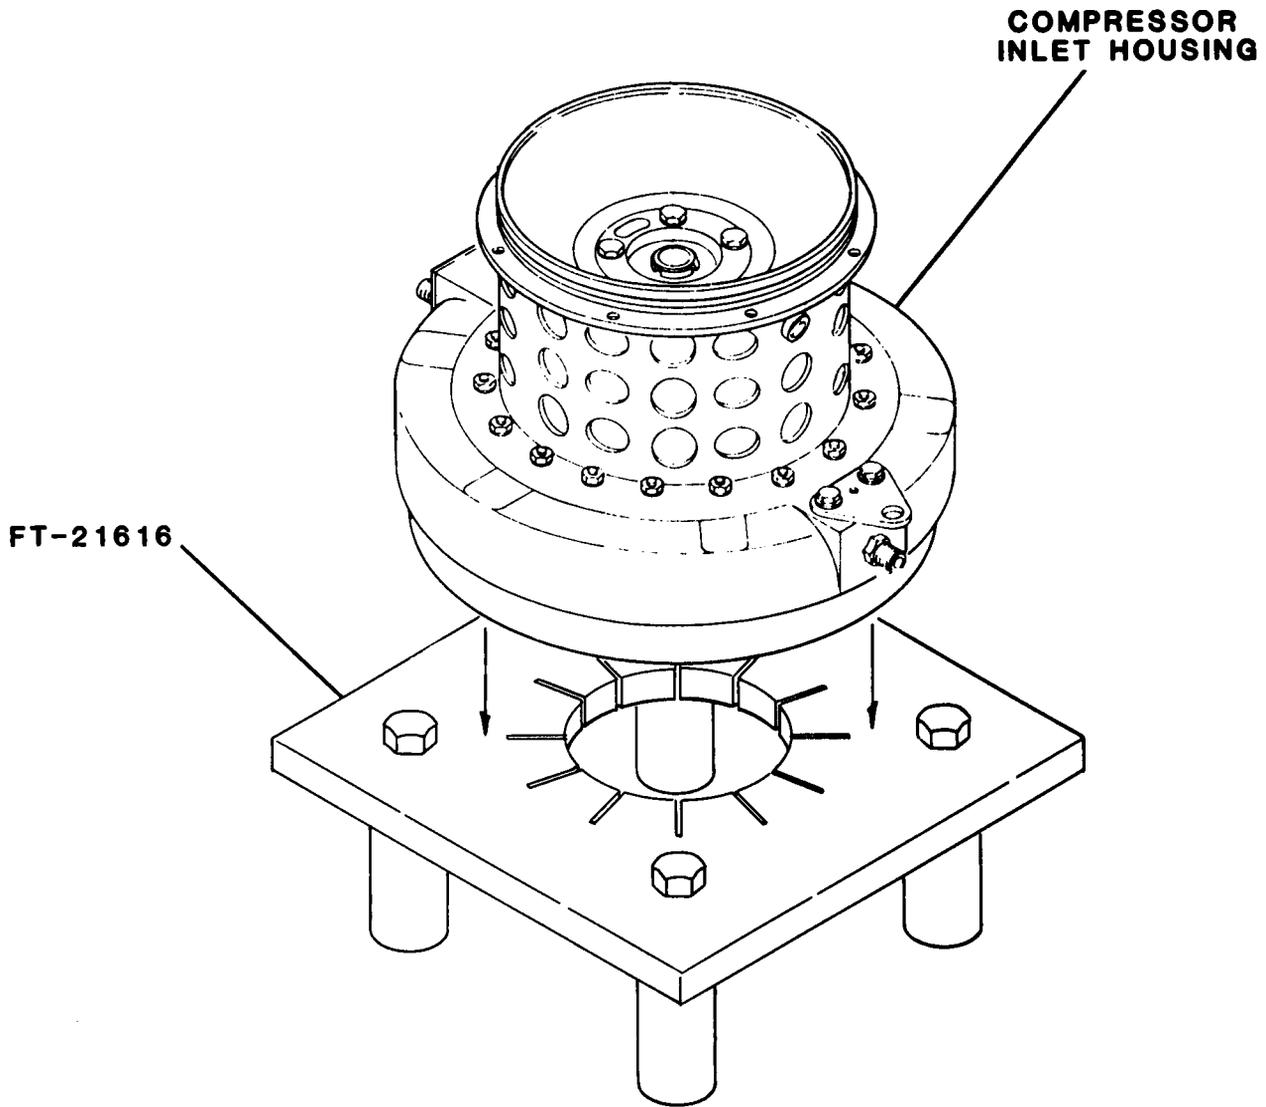

Figure 8-8. Using Turbine Wheel Assembly Fixture,
(6) Place turbine assembly in fabricated tool (FT-21616, Figure 8-8). This will secure the turbine wheel (20, Figure 8-6) to prevent rotation.